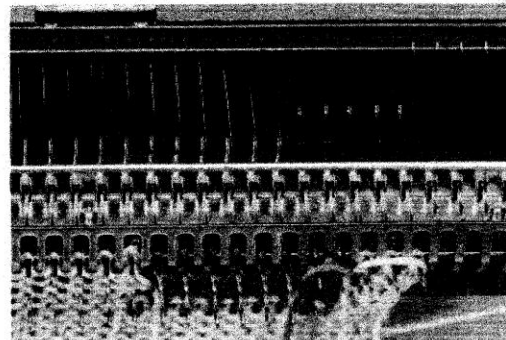
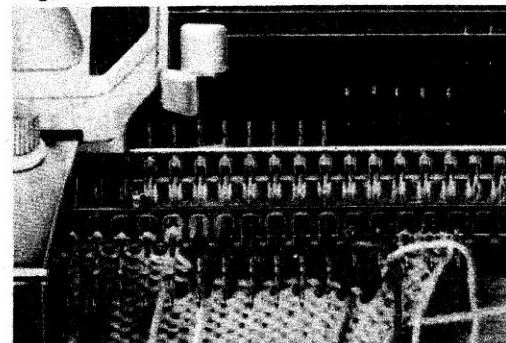

Fig.8
Fig.9
(1) Increasing Slope
- (a) At the opposite end to the carriage, hold the fabric firmly back against the sinker plate and at the same time bring forward into holding position (E) from position (D) the number of needles not required for the increase. Lay the yarn into the hooks of those needles in position (D). (Fig.8) Set both RCLs to "Position 2". (Fig.9).
- (b) Pass the yarn under the end needle in position (E) nearest the needles in position (D), and lay the yarn into the needles in position (D), at the opposite end to the carriage. (Fig.9) Knit one row.